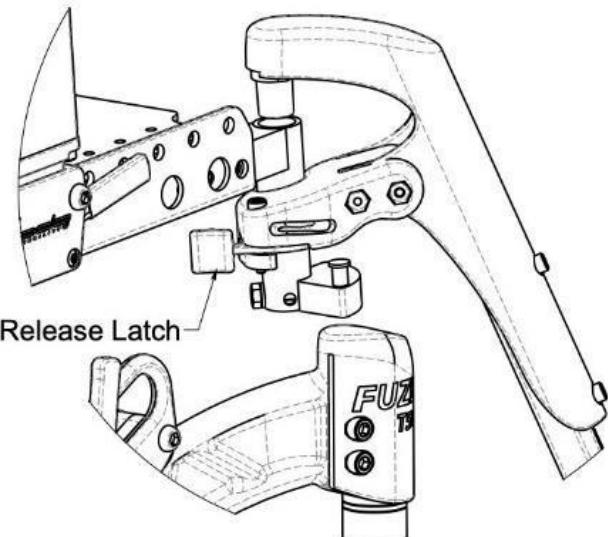

Fig. 1: Swing-Away Front Rigging Latch Installation and Removal Rigging.
1. Orient the footrest at approximately 45° outboard of the wheelchair as shown in Figure 1.
2. To release the locking mechanism, push the release lever as shown in Figure 1.